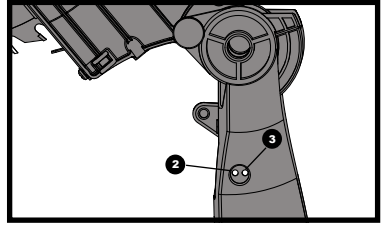

Fig 15
Three laser module mounting/adjustment screws are provided. Two (1,2) are positioned on the RH side of the laser housing, and one (3) on the LH side of the laser housing. These screws gently hold the laser module in place and on alignment by bearing on the laser modules casing. It is important that during any adjustment the pressure on the laser module casing is maintained as closely as possible to the factory setting. Do not over tighten any one screw – damage to the laser casing could result. (See fig. 15&16)